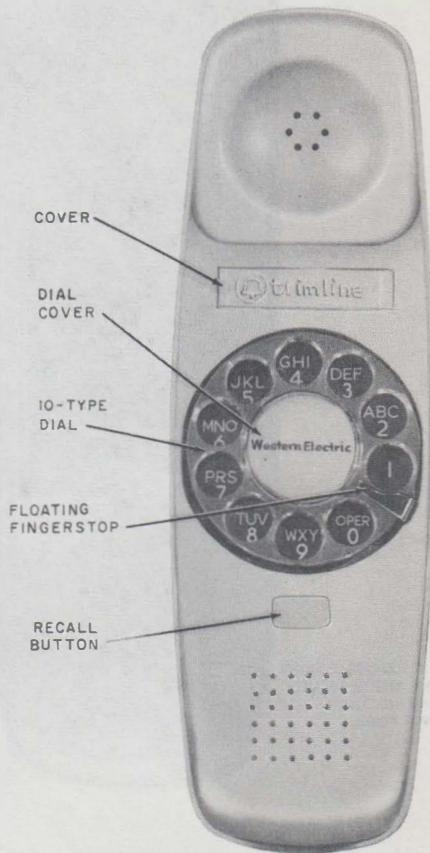

Fig. 1—220-Type Hand Telephone Set
1.01 This section contains information for the 220-, 226-, 2220-, and 2226-type hand telephone sets (Fig. 1, 2, and 3).
- Cover, Dial (Fig 1 and Table B)
- Cover (Fig. 1, 3 and Table B)